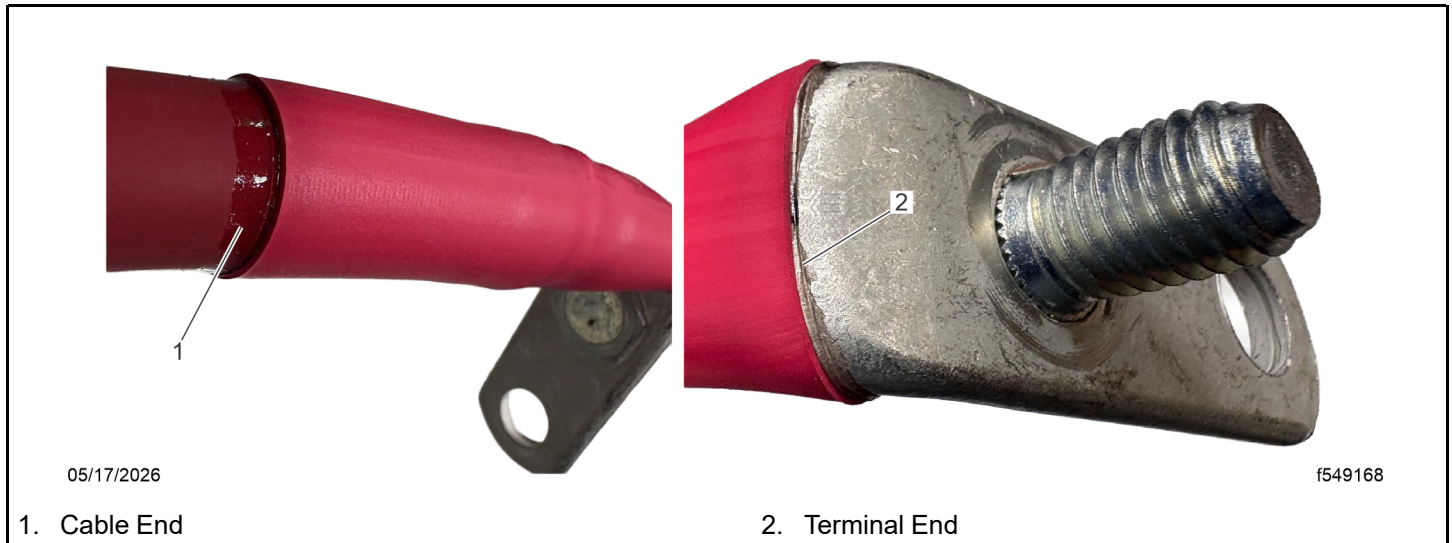

Fig 106, Continuous Adhesive Seal at Cable and Terminal Ends
- c. Confirm a continuous ring of adhesive can be seen around the circumference of the sleeve at both ends. See Fig. Fig. 106.